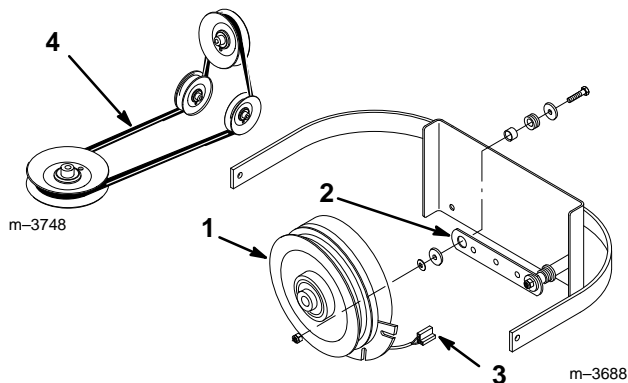

Figure 48
2. Remove the clutch retaining strap and unplug clutch terminal from wire harness (Fig. 48).
4. Install clutch retaining strap and plug clutch terminal into main wire harness (Fig. 48).